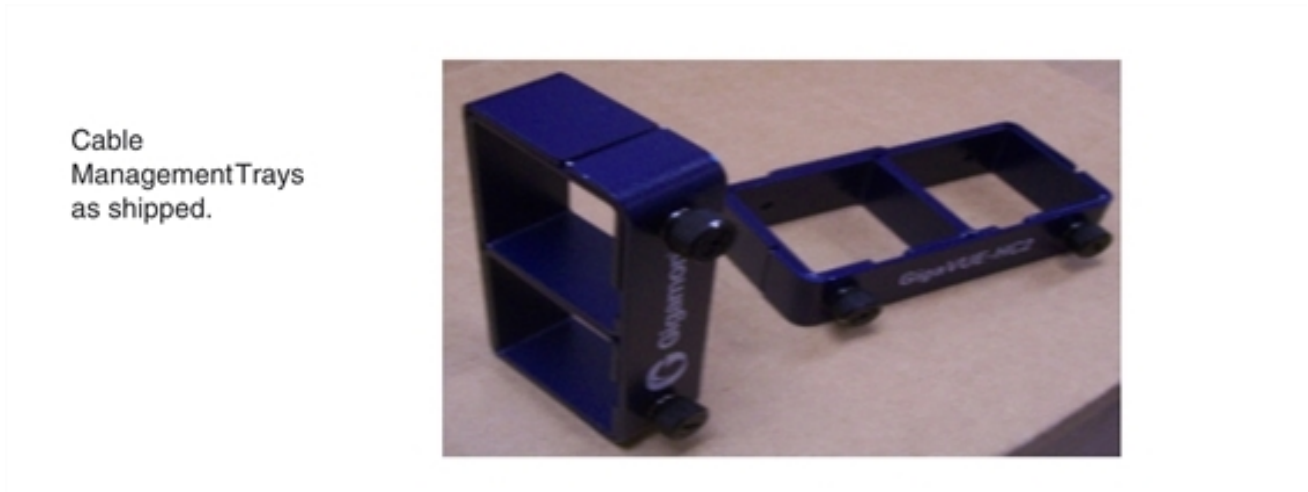

Figure 5: Cable Management Trays
1. Remove the cable management trays from the foam packaging shipped on top of the GigaVUE-HC2 chassis (Figure 5: Cable Management Trays).